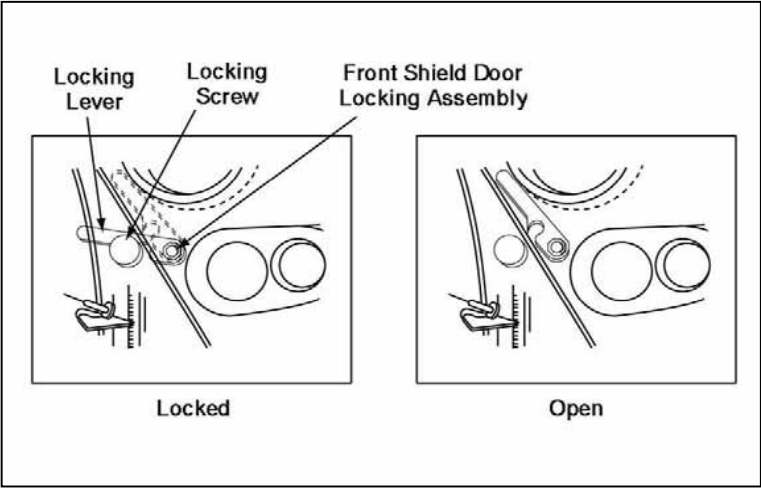

Figure 4-1-3: Front Shield Door Locking Assembly
front of the left and right launchers. Movement of the elevation arm is transferred to the front shield, which elevates and depresses the launchers. The front shield door provides ports for the optic sight (OSS) and thermal imagery (TI) sight. Opening and closing the door does not affect the sight settings. A sight protection unit is provided for the ports to protect the sights when not in use. The door can be closed and secured from inside the turret by using the front shield door locking assembly, which is composed of a locking lever and locking screw (Figure 4-1-3).